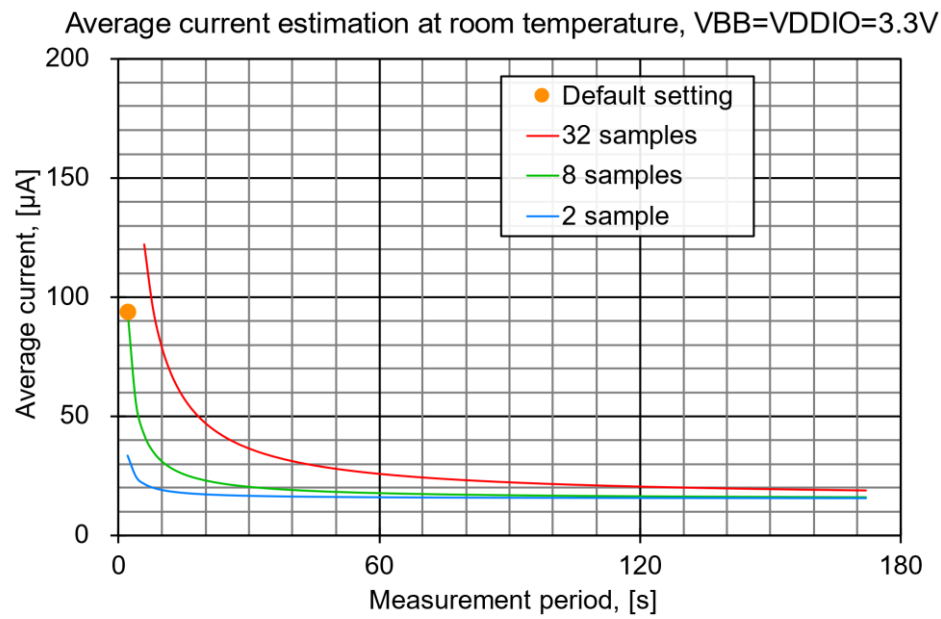

Figure 4 Average current
- Note 8: nRDY output pin disabled. See Figure 4 Average current.